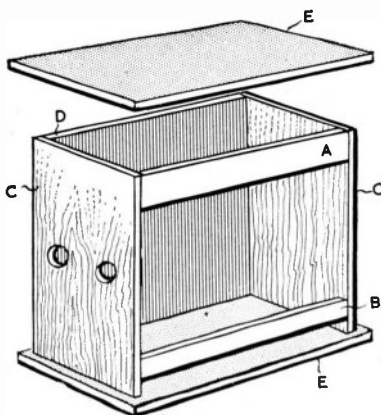

Fig. 3
First cut the ends (C) 14 in. long, 11 in. wide and $\frac{1}{2}$ in. thick, then bore two holes in one end for entrance to and from the nest boxes. Cut the upper cross piece (A) 16 in. long, 2 in. wide and $\frac{1}{2}$ in. thick, and the bottom cross piece (B) 16 in. long, 1 in. wide and $\frac{1}{2}$ in. thick. Drill rail A to a depth of $\frac{1}{2}$ in. and the rail B to a depth of $\frac{1}{2}$ in. to take the 16 SWG wire forming the front. Spacing can be about $\frac{3}{8}$ in. to $\frac{1}{2}$ in. Glue and pin these in place noting that B is positioned to leave a 1 in. space beneath it for the sand tray as seen in Fig. 3.